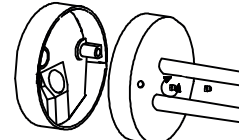

FIGURE 2a
- (1) Remove the backplate from the lamp by removing the 2 dome nuts on the front.(FIGURE 2a)